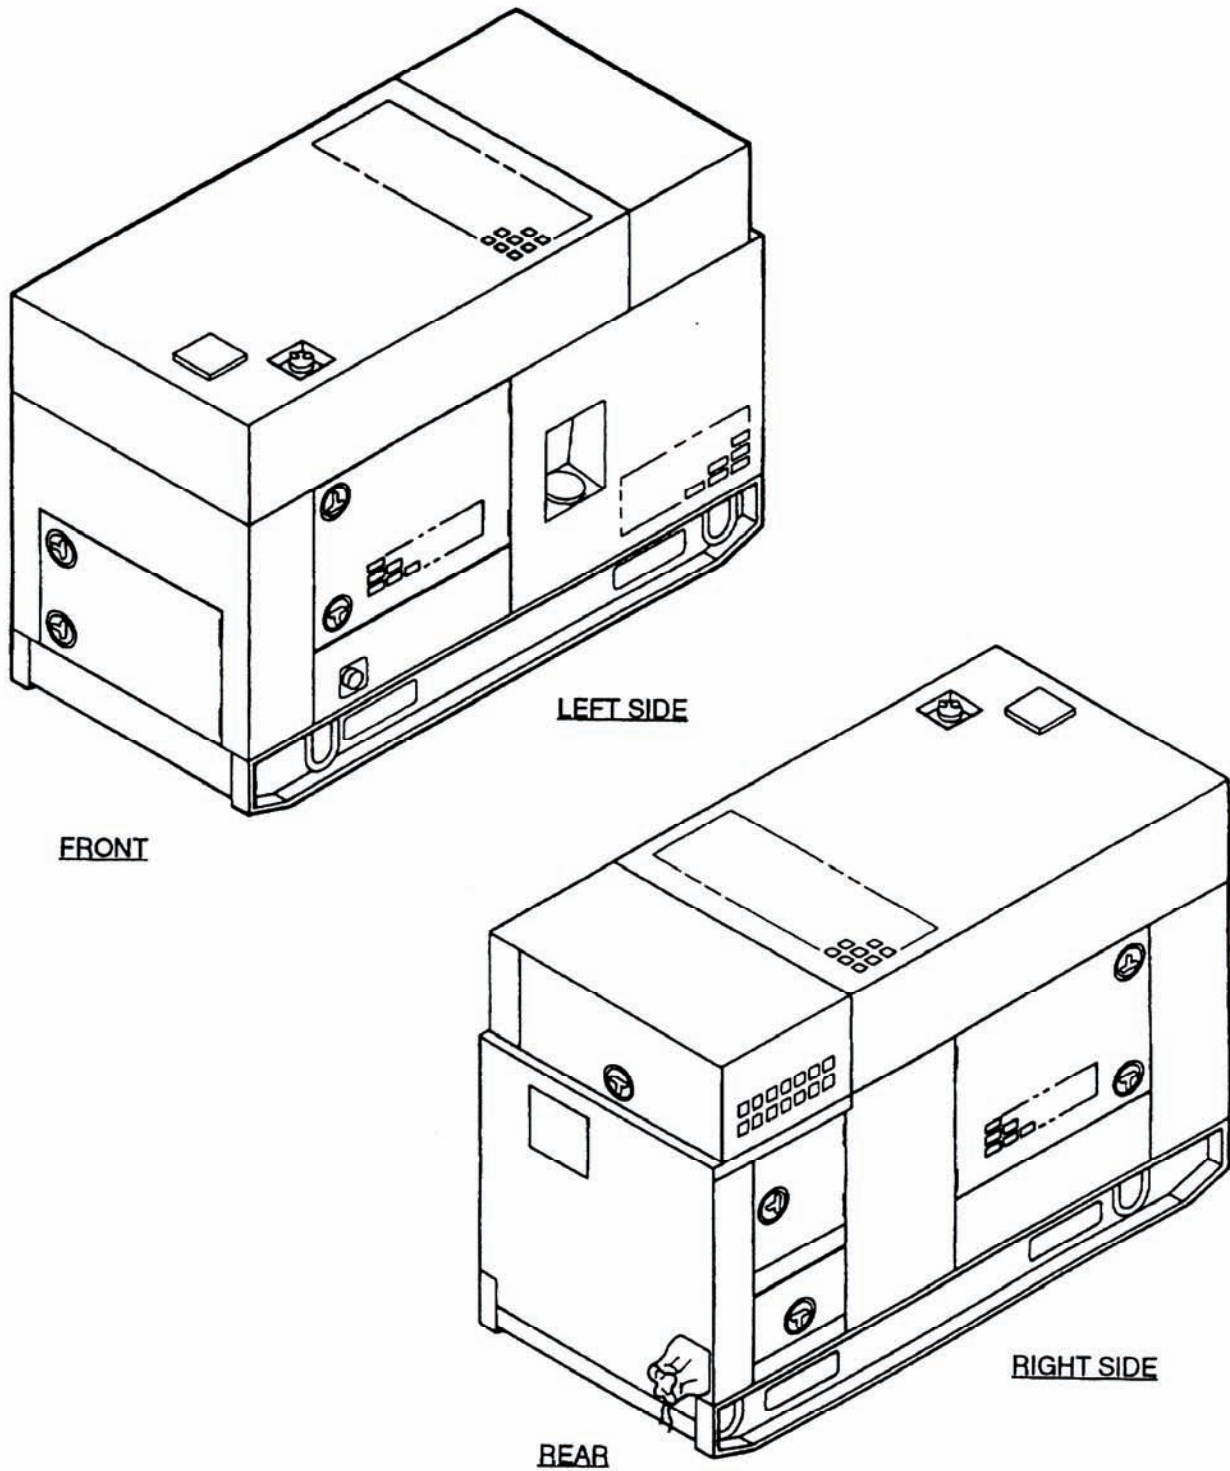

Figure 1-1. 15 kW 50/60 Hz and 400 Hz Tactical Quiet Generator Sets.
1-1.1 Type of Manual. This manual contains Unit, Direct Support, and General Support maintenance instructions for the 15 kW 50/60 Hz and 400 Hz Tactical Quiet (TQ) Generator Sets (Figure 1-1), herein referred to as generator sets. Included are descriptions of major components and their functions in relation to other components.
The generator sets, models MEP-804A/MEP-804B and MEP-814A/MEP-814B (Figure 1-1), are fully enclosed, self-contained, skid-mounted, portable units. They are equipped with controls, instruments, and accessories necessary for operation as single units or in parallel with another unit of the same class and mode. The generator sets consist of a diesel engine, brushless generator, excitation system, speed-governing system, fuel system, 24 VDC starting system, control system, and fault system. An Isuzu diesel engine powers generator sets MEP-804A/MEP-814A. A Yanmar turbocharged diesel engine powers generator sets MEP-804B/MEP-814B.